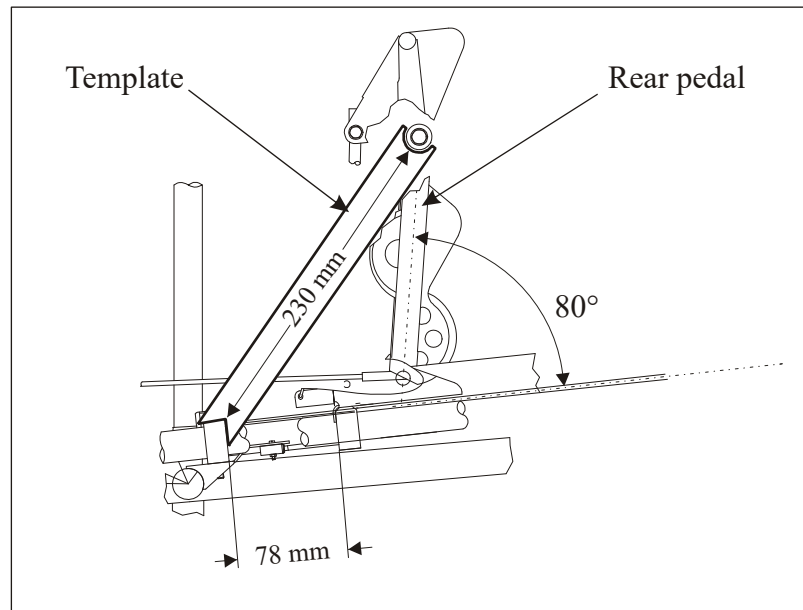

Figure 16 *Rear Pedal Template*
- 3 Mount the pre-assembled eye end of the longer control cable to the LH cable fastening (8).
- 5 Thread the cable through the "S"-shaped tube at the pedal and the pulley (7).
- 6 Adjust rear rudder pedals (1) in rearmost position.
- 8 Slip 2 NICOPRESS (National Telephone Supply Co., Cleveland Ohio) 18-3-M or 28-3-M sleeves (5) and 100 mm 771095 shrinking sleeve on the control cable.
- 9 Thread the free end of the control cable through the rear fairleads (6) and the hole in the fabric to the tail.
- 12 Fix rear pedals in neutral position (80° relative to the foot-rest using a template as shown in Figure 16).